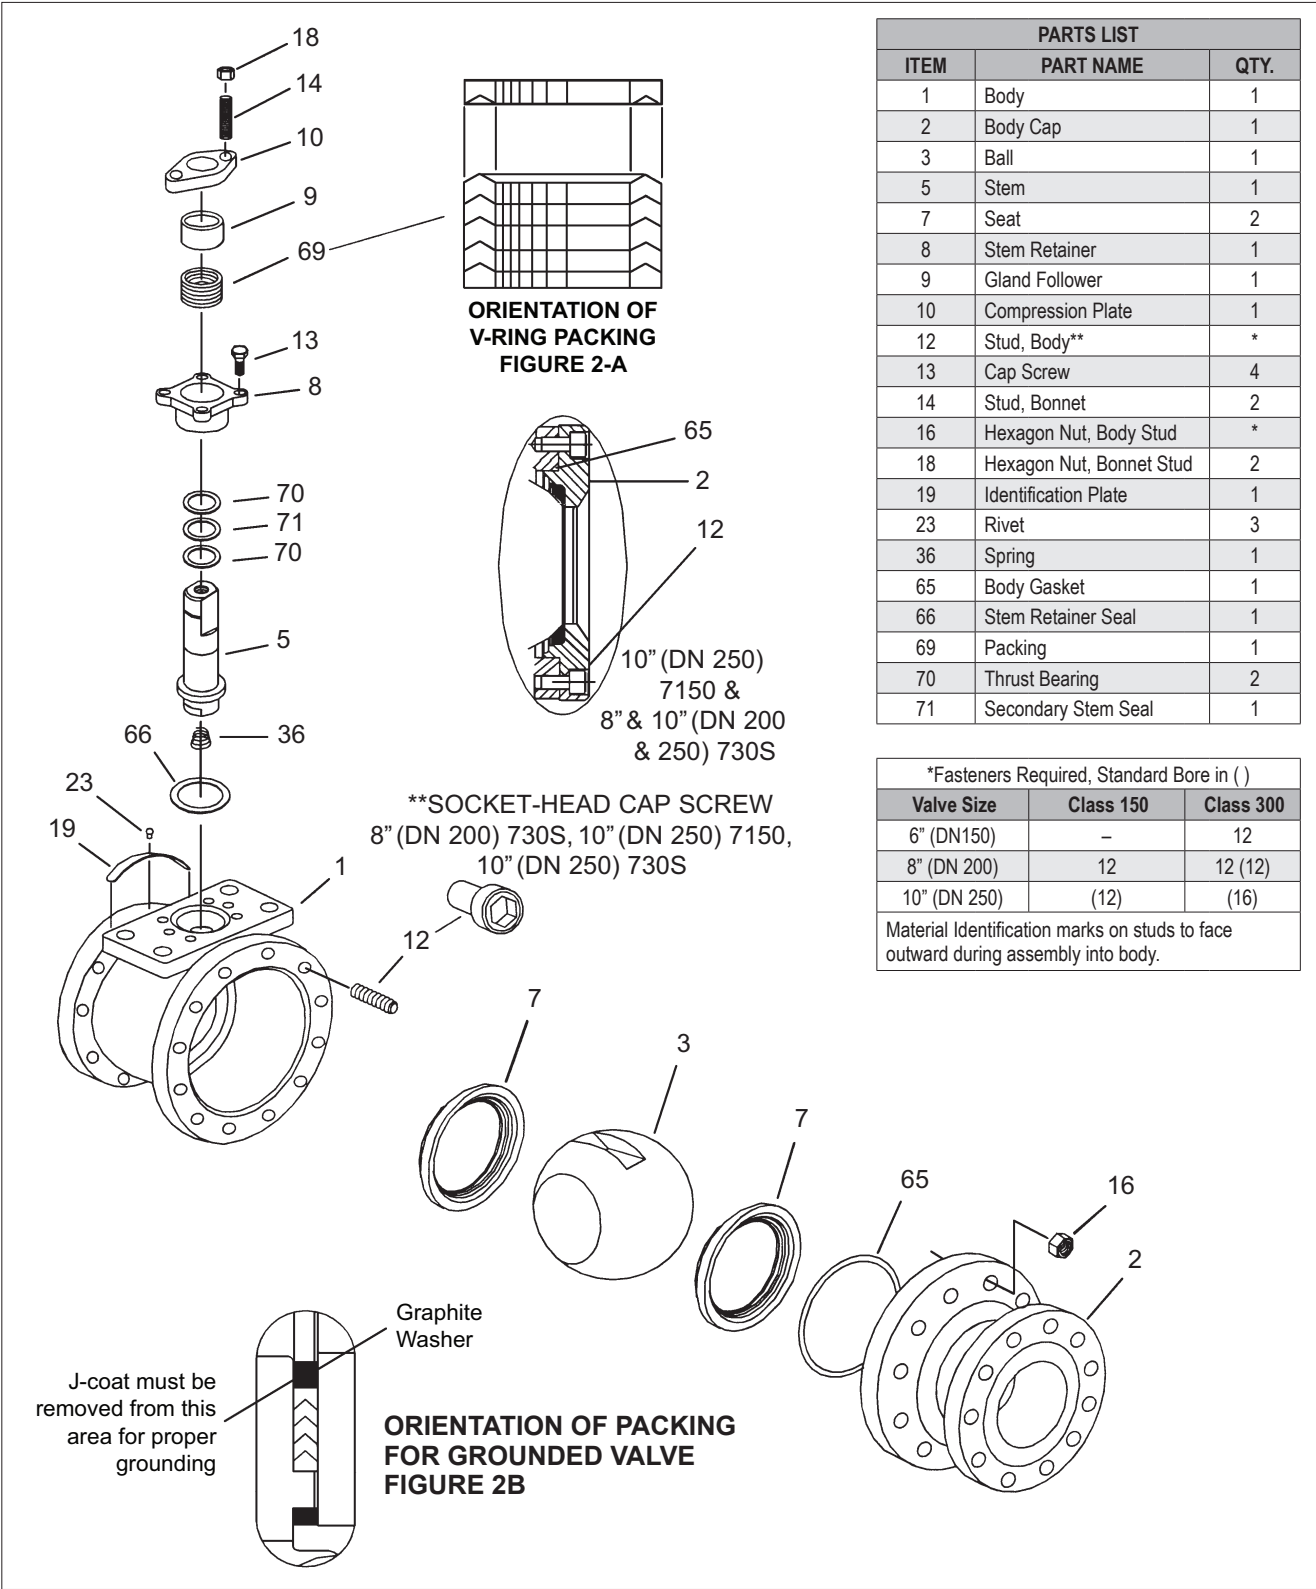

Figure 2.
5. Standing the body (1) carefully on end, install one seat (7) with the flat surface down.
6. Slide the thrust bearings (70), and secondary stem seal (71) over the top of the stem and down to the stem shoulder. (**See Figure 2 for proper orientation.**)
7. Install spring (36) into bottom of stem by pushing it until it bottoms out.
9. Install the ball (3) rotating it onto the stem (5) in the closed position.
10. Place the stem retainer seal (66) into its position on top of the bonnet (**see Figure 2**).
- c. From **Figure 2**, the ballooned part number, part name and quantity required.